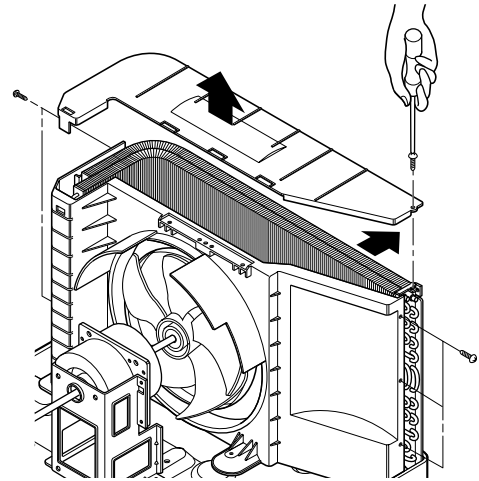

Figure 33
3. Remove 2 screws which fasten the side cover. (See Fig. 33)
7. Re-install the components by referring to notes. (See Fig. 33)